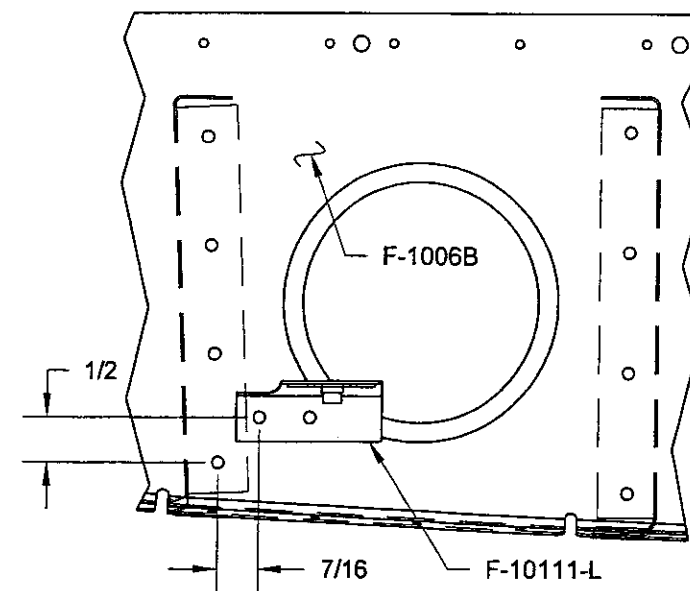

FIGURE 4: MATCH-DRILLING THE ANGLE BRACKET (REAR VIEW)
Step 4: Match-Drill the F-1006B Fuselage Bulkhead using the F-10111-L Angle Bracket as a guide as shown in Figure 4. Deburr the parts and prime the angle bracket if desired.